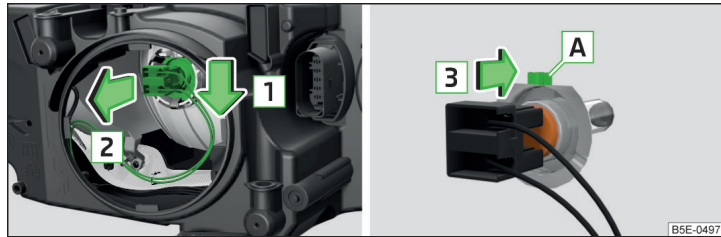

Fig. 220 Headlight with halogen bulb: Bulb for low beam
- Disconnect the connector with the light bulb in the direction of arrow **1** » Fig. 220.
- Insert the connector with the new bulb so that the fixing lug **A** » Fig. 220 fits the bulb into the recess on the reflector.